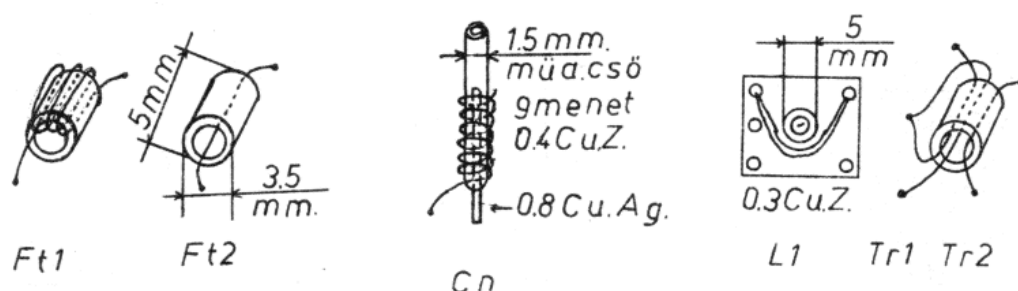

Figure 1: coil data
**T1** and **T2** must be neutralized from a high-frequency point of view. **Cn** neutralizing trimmer capacitors serve this purpose. (In the case of retrofitting, we must prepare these ourselves based on Figure 1.)
Figure 1 illustrates the structure of **Cn**. The wire is easily wound onto the plastic tube so that during adjustment, holding the protruding plastic tube with tweezers, we can easily pull the whole thing along the inner guide. To make **FT1**, thread three threads into the ferrite bead. The wire diameter is not critical, the only thing is that we can pull it into the iron core without damage.